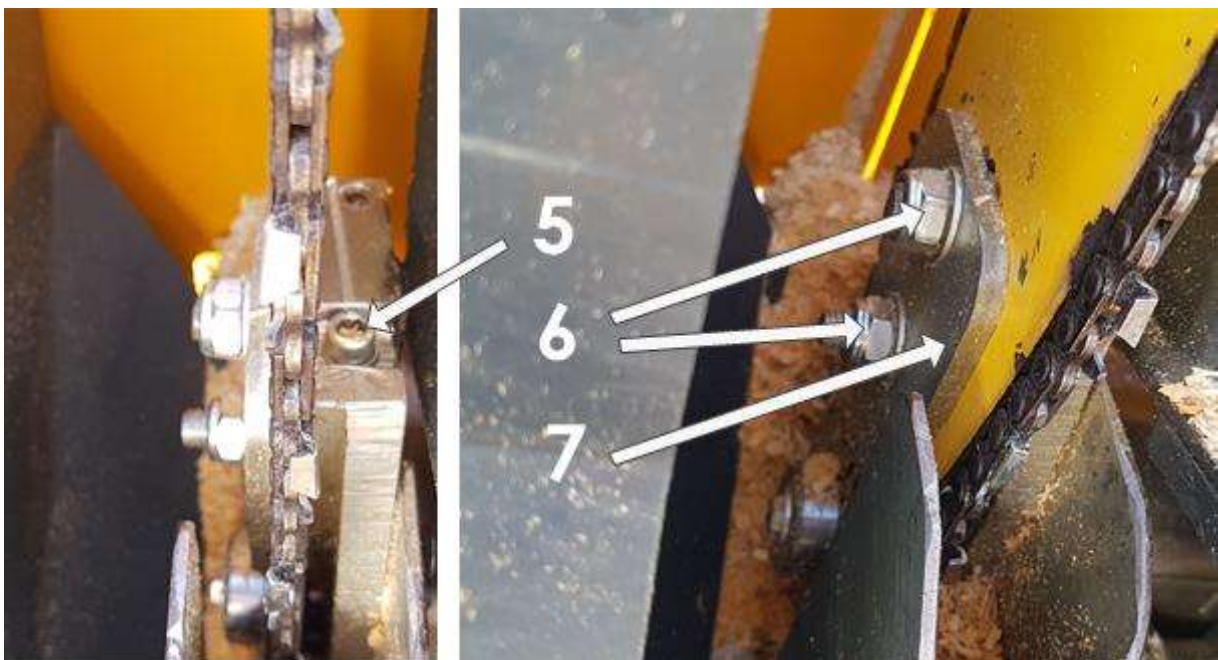

Figure 21
- To replace the chain, loosen the tensioning screw (5, Figure 21), unscrew the two nuts (6) and, if necessary, remove the plate (2) and the bar.
- Insert the plate (7) and the two nuts (6).
- Tighten the chain using the tensioning screw (5).
- Fully tighten the nuts (6).